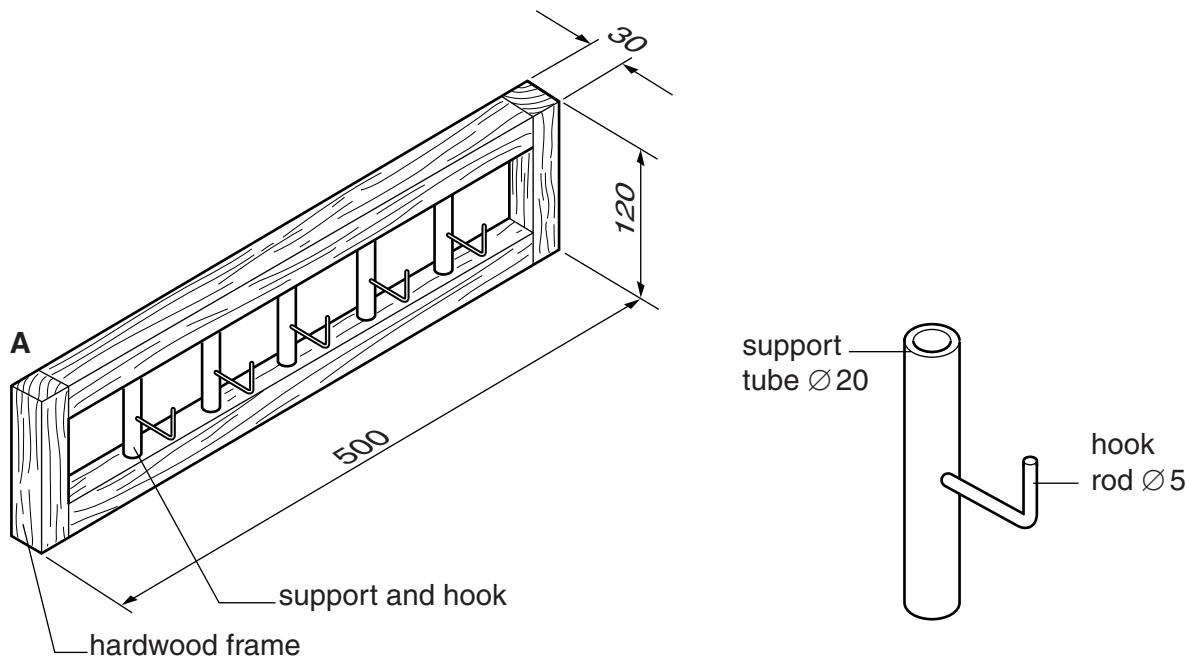

Fig. 5
- 4** Fig. 5 shows a wall mounted coat rack and details of one support and hook.